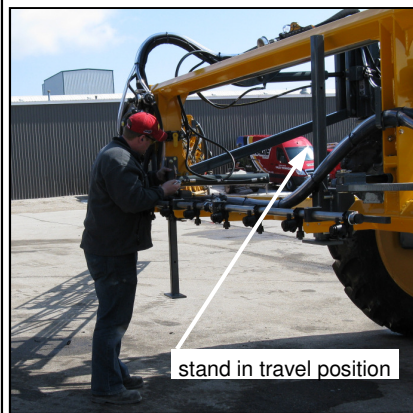

FIG. 4.47-2
8. Put the boom stands in the "travel position".	4.47; FIGURE 4.47-2